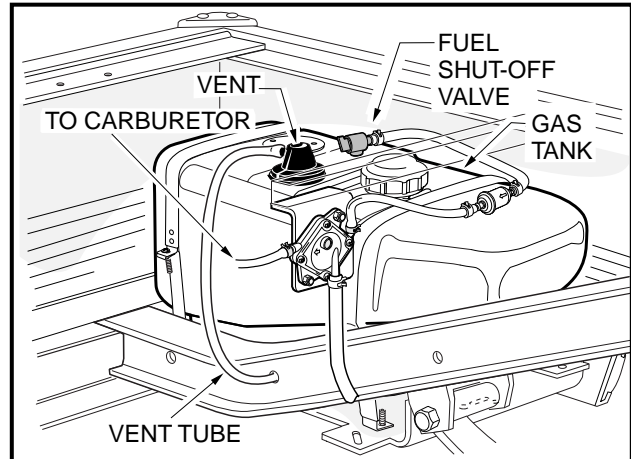

Figure 10-5 Gasoline Tank
- **Turn fuel shut-off valve to closed (OFF) (Figure 10-5, Page 10-7).**
- If the vehicle has an all-weather enclosure installed, the gas tank must be properly vented as shown (Figure 10-5, Page 10-7).
2. Remove fuel cap and fill the fuel tank with fresh, unleaded gasoline only (**Figure 10-5, Page 10-7**). See following **CAUTION** and **NOTE**.